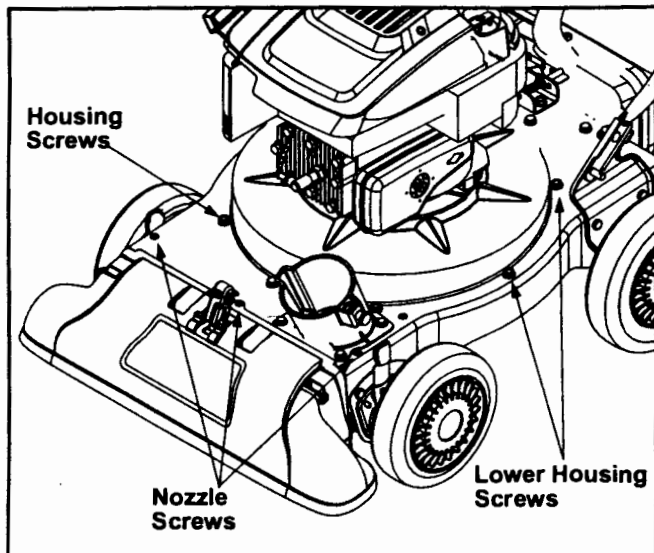

Figure 14
- Remove the three screws on the upper housing that secure the nozzle cover and the nine screws that secure the lower housing to the upper housing. See Figure 14.